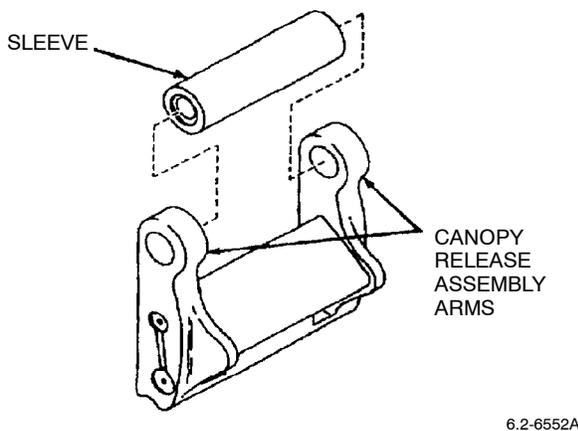

Figure 6. Trial Fit Sleeve
f. Trial fit sleeve between arms of canopy release. Sleeve must not show evidence of binding or restriction of movement (Figure 6).